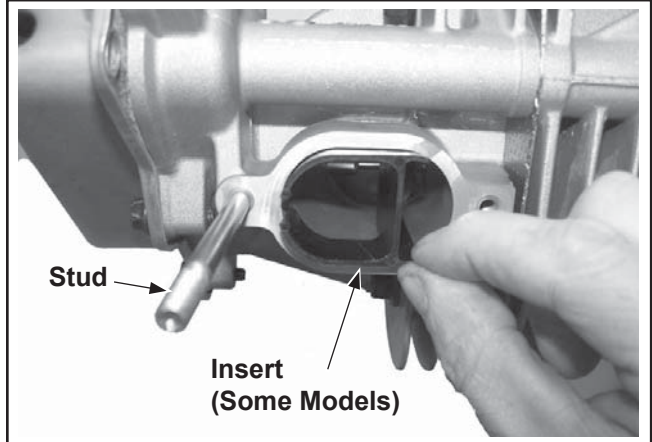

**Figure 10-56. Installing Spark Plug.**
3. Install the spark plug and torque it to **24-30 N·m (18-22 ft. lb.)**. See Figure 10-56.